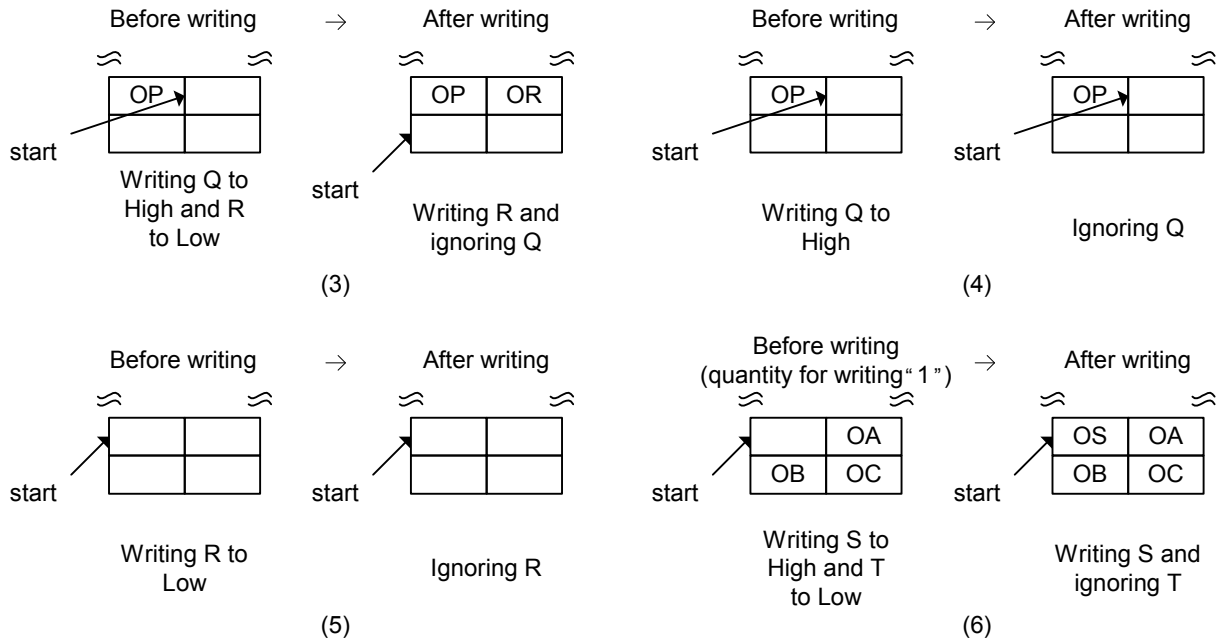

Fig. 1-78 FIFO writing processing (caution required)
If word writing is performed from a state in which byte boundaries exist in the FIFO, writing to High will be ignored. Only writing to Low will be performed (Fig. 1-78 (3)). In other words, the operation is identical to that performed when writing to Low. If writing to High only from a state in which byte boundaries exist in the FIFO, writing will be ignored (Fig. 1-78 (4)).
For cases in which writing occurs only to Low from a state in which byte boundaries do not exist in the FIFO, this writing will be ignored (Fig. 1-78 (5)). If word writing from a state in which byte boundaries do not exist in the FIFO and the quantity that can be written is "1," writing to Low will be ignored and only writing to High will be performed (Fig. 1-78 (6)). In other words, the operation is identical to that performed when writing to High.